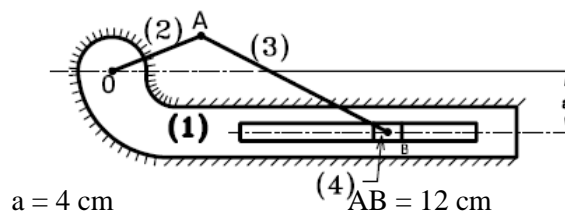

Figure.18
- 1.6 In the mechanism shown in Figure.18, block (4) slides in a slot in the fixed frame (1). Axis O of crank (2) is fixed on (1). Find the two extreme positions of B, the axis of the pin by which link (3) is attached to the block (4), and the length of the stroke of the block (4).